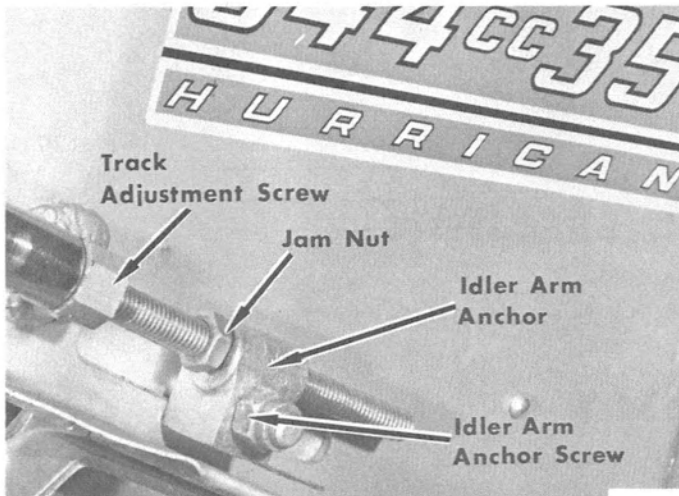

Figure 1. Track Adjustment Screw
- a. Loosen idler arm anchor nut. (Figure 1)
- b. Loosen jam nut on track adjustment screw and turn track adjustment screw counterclockwise (when viewed from rear). (Figure 1)